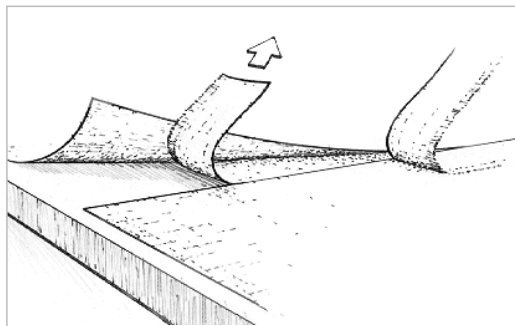

Figure 5-21 Remove the topmost trimming. Then lift the opposite cut edge to remove the overlapped trimming.
- c) Remove the topmost trimming and then lift the opposite cut edge to remove the overlapped trimming (*Figure 5-21*).